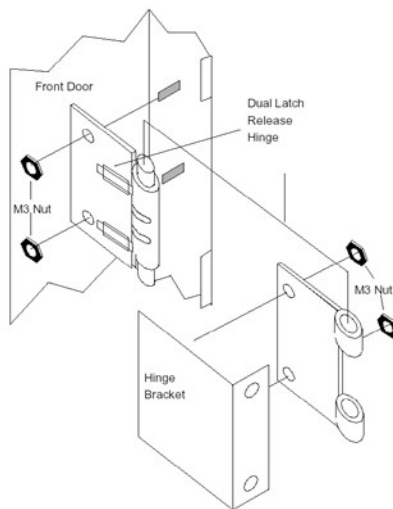

Figure 2. Hinge Assembly
2. Attach the two hinge plates (with the spring-loaded pins) to the front door assembly with the M3 nuts, as shown in Figure 2.